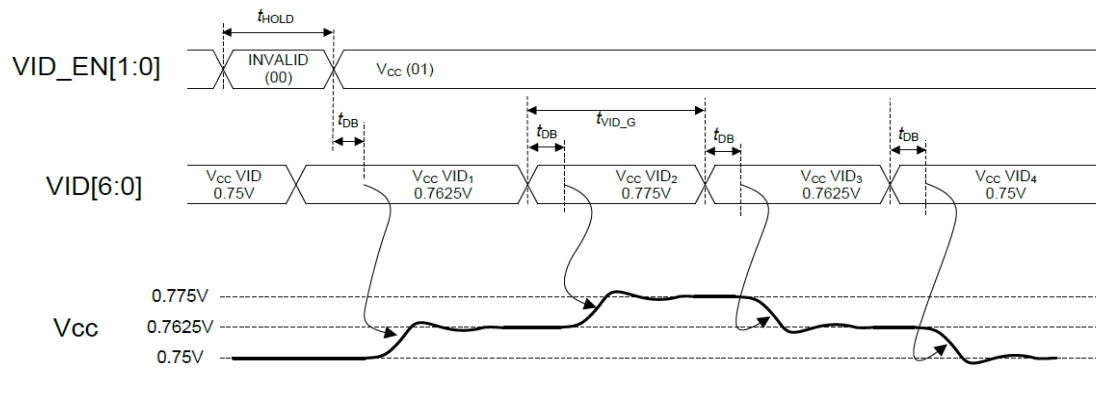

Figure 13. Dynamic VCC Timing Diagram
Figure 13 shows how the VCC output voltage can change during normal runtime operation when the VIDEN signals are set to VCC (01). If the VIDEN signals are set to VCC (01), the VCC regulator must monitor the VID signals, latch any changes, and change the output voltage setting accordingly. During normal operation, when the CPU is dynamically changing the VID setting for the VCC regulator, it will only change the VID combination by 1 step, which corresponds to